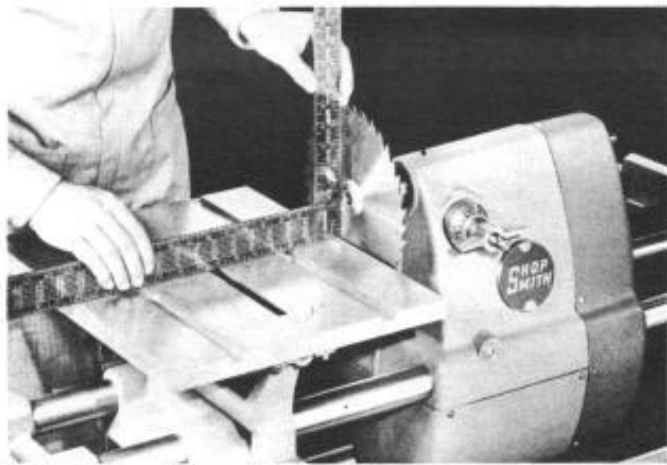

Fig. 6 Table must be exactly 90° to blade
1... AT "O" TRUNNION SETTING, THE TABLE MUST BE SQUARE TO THE SAW BLADE. This is checked with the table as low as possible and locked in position about $\frac{1}{8}$ " away from the saw blade (Fig. 6). Be sure the square used for checking rests flat against the blade and that it seats between teeth. If the angle between blade and table is not exactly 90 degrees, adjustment is required. (See section on Adjustments.)